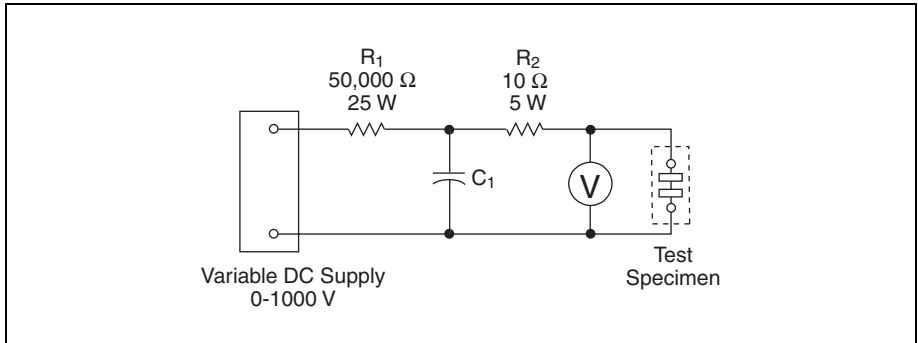

Figure 4.10 UL 497A Breakdown Voltage Measurement Test
2. **Breakdown Voltage Measurement Test** — Secondary protectors must break down within  $\pm 25\%$  of the manufacturer's breakdown rating when tested in each polarity with a rate of voltage rise no greater than  $2000 \text{ V/s}$ . The secondary protector is to be mounted in accordance with the manufacturer's installation instructions and then subjected to the test circuit shown in Figure 4.10. This requirement applies only to secondary protectors connected between Tip and Ring or Tip/Ring and Ground of the telephone loop.